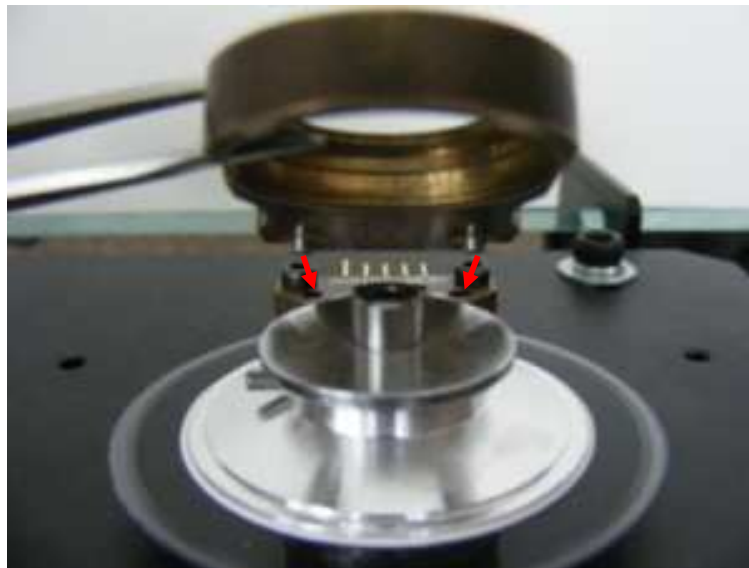
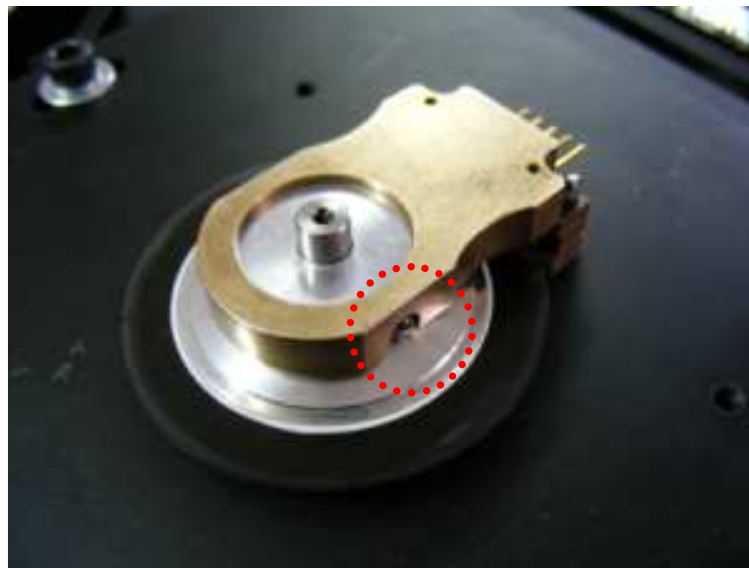

Figure 13.2-4
Figure 13.2-6
- Place the encoder calibration device so that the device pins will fit into the encoder optical module calibration holes (Figure 13.2-4, 13.2-5) and the encoder wheel set screw fit in. (figure 13.2-6)